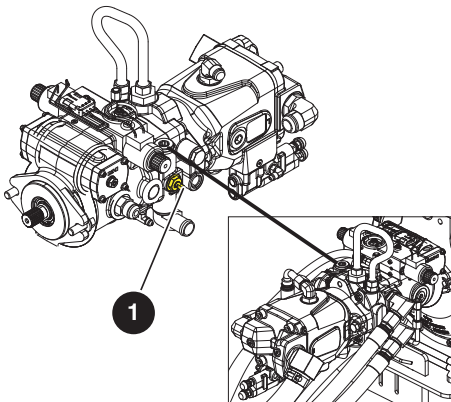

Figure 27 Drive Bypass Valve
3. Locate the bypass valve on the inboard side of the drive pump. Bypass the drive pump by loosening the valve stem (item 1 - marked with yellow paint - Figure 27) 90 degrees clockwise.